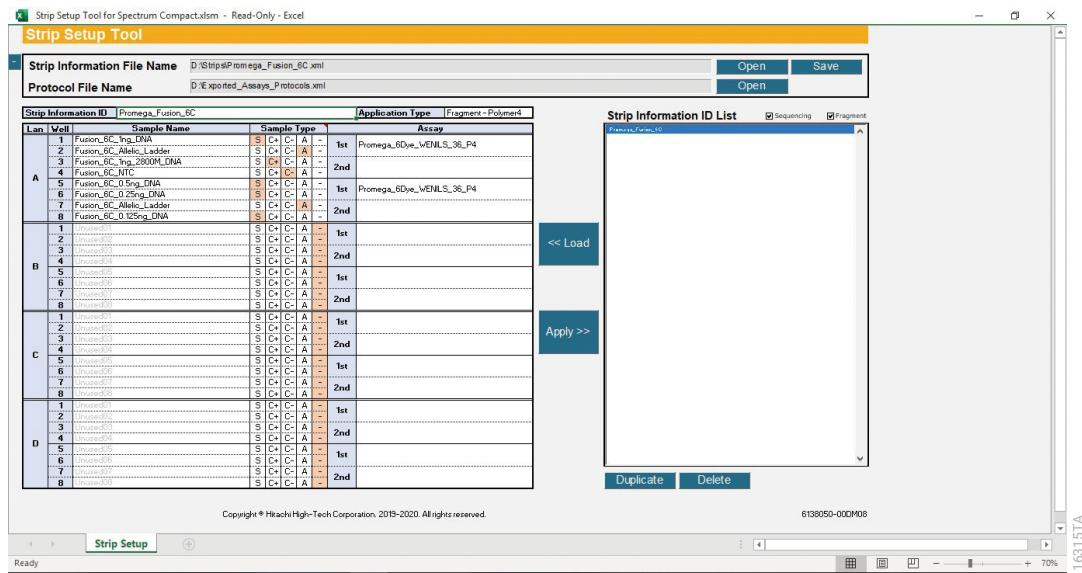

Figure 248. Strip Setup Tool for Spectrum Compact with new strip in Strip Information File Name.
9. The name and location of the new strip will now appear in the Strip Information File Name cell (Figure 248).